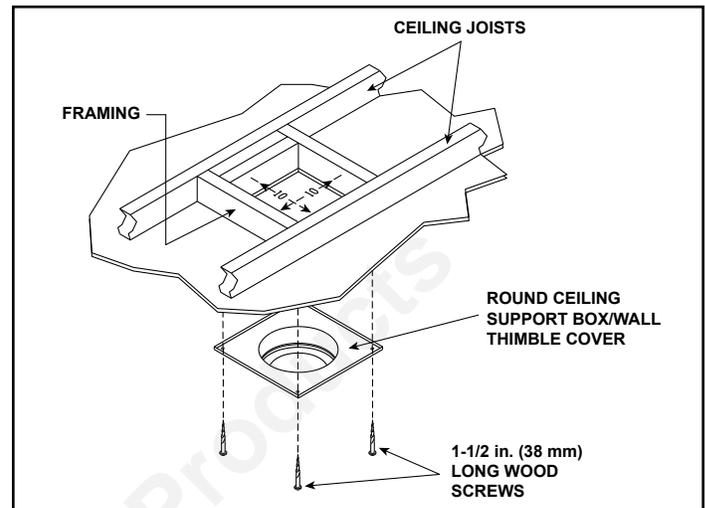
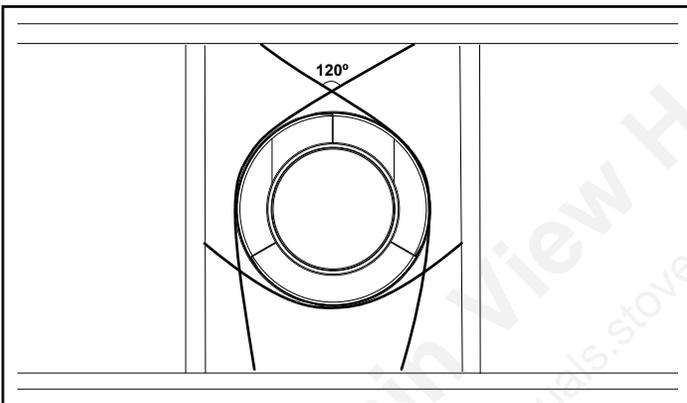

Figure 5.12
Figure 5.16 - Securing Vertical Pipe Sections
- To install the round support box/wall thimble cover in a flat ceiling, cut a 10 in. (254 mm) square hole in the ceiling, centered on the hole drilled in Step 2. Frame the hole as shown in Figure 5.12.
Note: For multi-story vertical installations, a ceiling firestop is required at the second floor, and any subsequent floors (Figure 5.16). The opening should be framed to 10 in. x 10 in. (254 mm x 254 mm) inside dimensions, in the same manner as shown in Figure 5.12.
- Vent supports or plumbers strap (spaced 120° apart) may be used to support vent sections. See Figures 5.16 and 5.17.